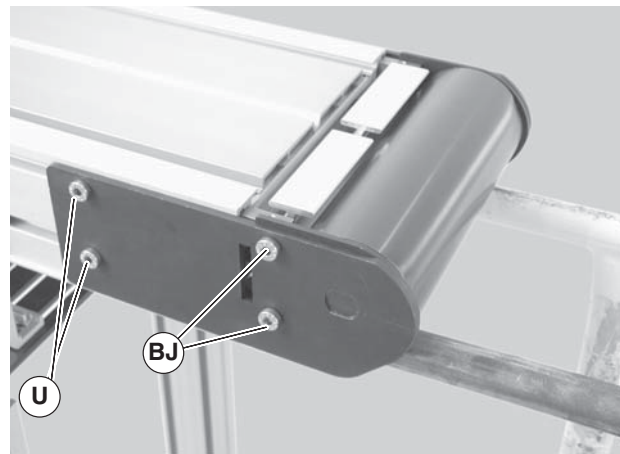

Figure 54
2. On one side of conveyor, loosen the two (2) back fastening screws (Figure 54, item U) and remove two (2) front fastening screws (BJ).